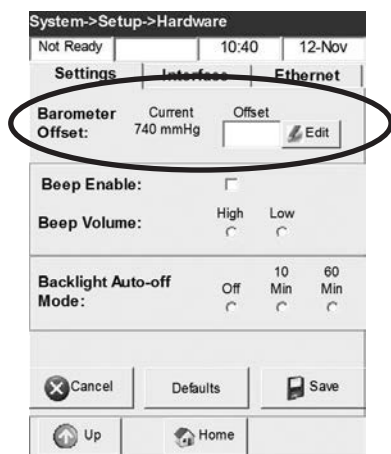

Fig. 3-31 Enter barometric pressure
3. In the **<Settings>** menu, press **Edit** to enter an offset from the true barometric pressure (Fig. 3-31).